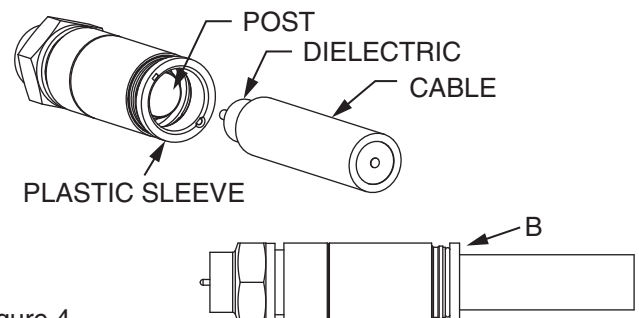

Figure 4
- 3) Insert prepared cable end into the connector through the plastic sleeve. Ensure that the center conductor of the cable and foil covered dielectric are properly aligned with the connector post (see Figure 4).
Insert cable dielectric into the connector post. Push and twist connector until the cable bottoms inside of the connector (mark at point B will be even with the end of the connector) (See Figure 4).